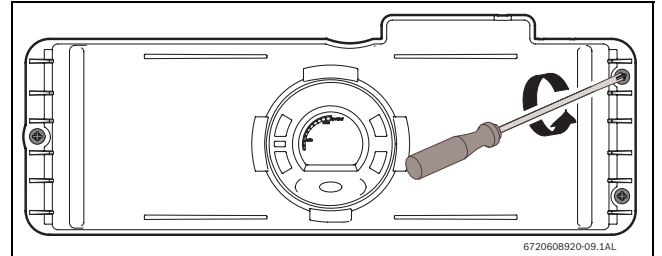
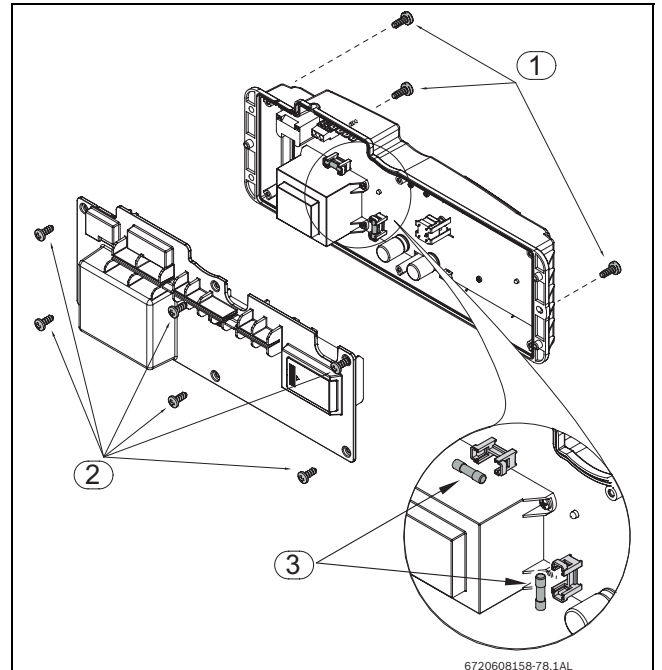

Fig. 66
Fig. 67 Location of the fuses inside the control board
- ▶ Remove the three screws from the control unit (→ Fig. 66 and Fig. 67, pos. 1).
- ▶ Remove the six screws from the back cover of the control unit (→ Fig. 67, pos.2).
- ▶ Loosen the three screws of the control unit (→ Fig. 66).